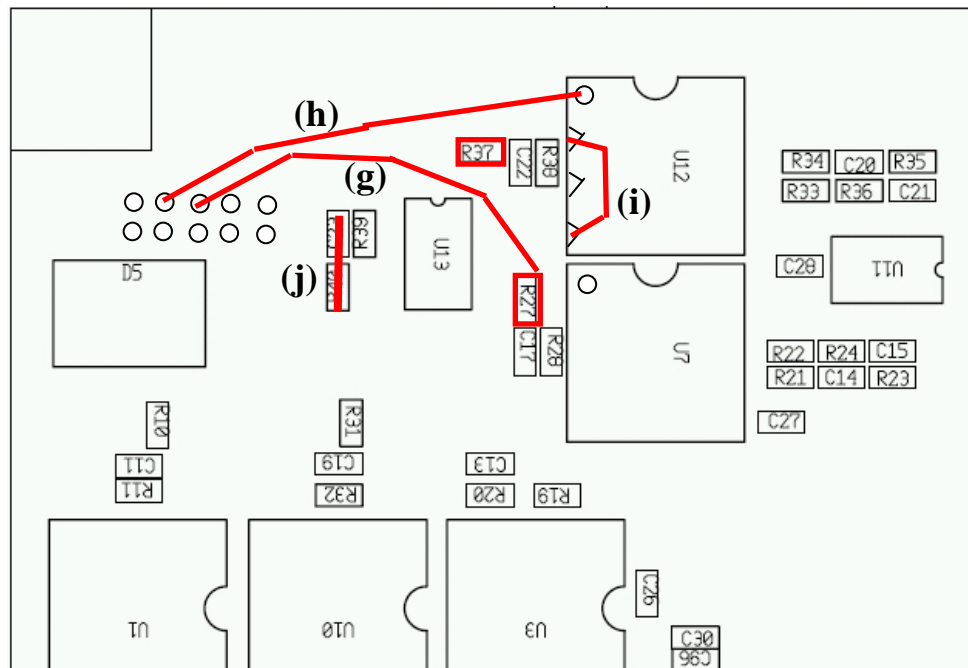

Fig.9. Wire connections on bottom side 3-g, h, i, j.
- (g) Resistor R27 (part of +5VMB sense line divider) connect directly to pin5 of J12 connector by a 30mm piece of wire, see Fig.9.
- (h) Connect pin3 of J12 with pin1 of U12 by using a wire, see Fig.9. This operation will connect +5V DIG with power supplies of all five isolation amplifiers (HCP7840).
- (i) Make a short connection between pin4 and pin 2 of U12, see Fig.9.
- (j) Connect resistor R37 directly to pin7 of the connector J12 (-5VMB sense lines) by means of short-cut through unsoldered components C23, R40, see Fig.9. Verify good connection between pin7 of J12 and resistor R37.